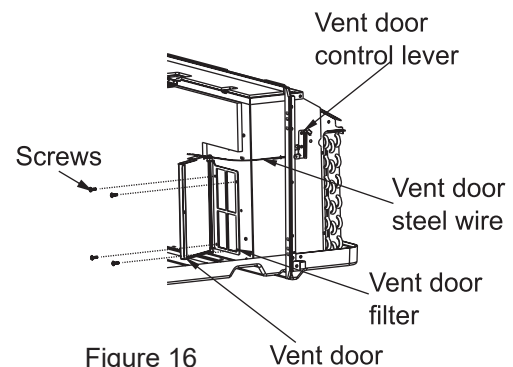

Figure 16
- Rotate the vent control lever to open the vent door (See Figure 16).
- Remove four screws from the vent door filter (See Figure 16).
- First pull out the vent door steel wire from the hole of the vent door, then take off the vent door and filter (See Figure 16).